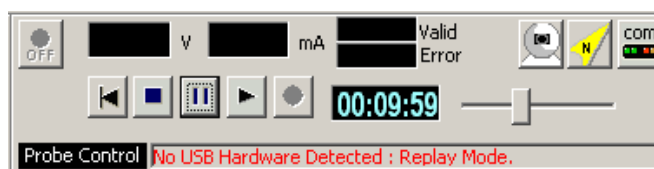

Fig. 1.5a Data replay mode
**In replay mode** (fig. 1.5a). The control buttons operate as for a video recorder, the replay time counter is displayed when the play button is clicked and disappears when the pause button is clicked. File replay speed can be adjusted with the sliding cursor control . Clicking on the stop button will terminate the replay in progress. While in pause mode, the restart button allows a replay to be restarted from the beginning of the data file.